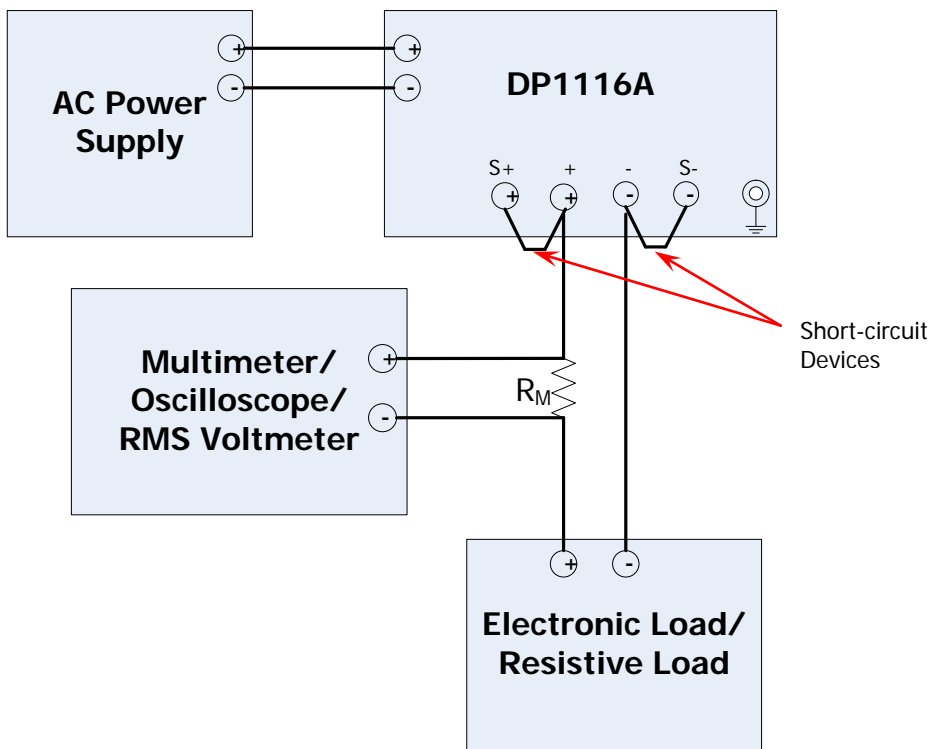

Figure 3-1 Test Connections (CC)
1. Turn off DP1116A. Connect DP1116A, AC power supply, current sampling resistor, electronic load and multimeter according to Figure 3-1.
1. Turn off DP1116A. Connect the power supply, AC power supply, current sampling resistor, electronic load and multimeter according to Figure 3-1. Set the voltage selector (100, 115, 220 or 230) at the rear panel of DP1116A according to your need and make sure that the fuse currently installed matches the input voltage. As the voltage test methods of the four specifications are the same, 220 is taken as an example for illustration.
1. Turn off DP1116A. Connect DP1116A, AC power supply, current sampling resistor and RMS voltmeter according to Figure 3-1.
- Turn off DP1116A. Connect DP1116A, AC power supply, current sampling resistor (0.01 Ω) and multimeter according to Figure 3-1 and use USB cable to connect the power supply and PC.